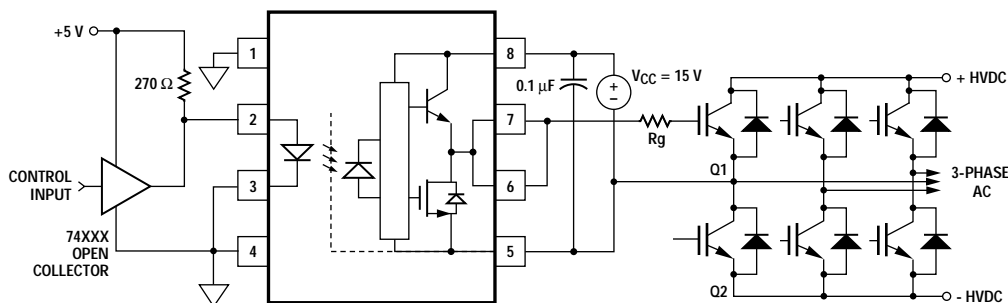
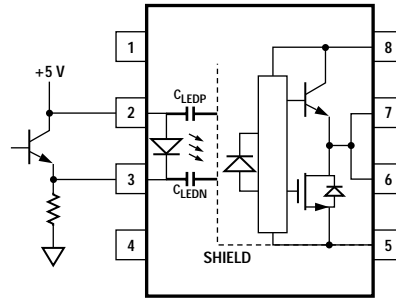

Figure 25. Recommended LED drive and application circuit for HCPL-3180.
Figure 32. Recommended LED drive circuit for ultra-high CMR.
by  $R_g + 1 \Omega$ . Minimizing  $R_g$  and the lead inductance from the HCPL-3180 to the IGBT gate and emitter (possibly by mounting HCPL-3180 on a small PC board directly above the IGBT) can eliminate the need for negative IGBT gate drive in many applications as shown in Figure 25. Care should be taken with such a PC board design to avoid routing the IGBT collector or
**Step 1:** Calculate  $R_g$  minimum from the  $I_{OL}$  peak specification. The IGBT and  $R_g$  in Figure 25 can be analyzed as a simple RC circuit with a voltage supplied by the HCPL-3180.
For the circuit in Figure 25 with  $I_F$  (worst case) = 16 mA,  $R_g = 10 \Omega$ , Max Duty Cycle = 80%,  $Q_g = 100 \text{ nC}$ ,  $f = 200 \text{ kHz}$  and  $T_{AMAX} = +75^\circ\text{C}$ :
design objective of a high CMR LED drive circuit becomes keeping the LED in the proper state (on or off) during common mode transients. For example, the recommended application circuit (Figure 25), can achieve 10 kV/μs CMR while minimizing component complexity.
performance. Figure 32 is an alternative drive circuit, which like the recommended application circuit (Figure 25), does achieve ultra high CMR performance by shunting the LED in the off state.